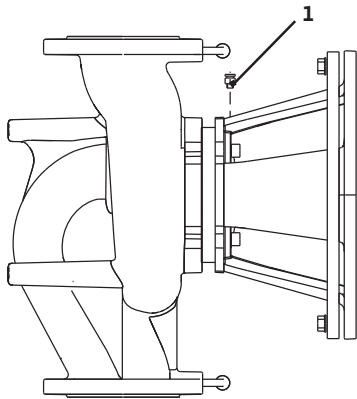

Fig. 41: Air vent valve
- Vent the pumps by loosening the air vent valves (Fig. 41, Item 1). Dry running will destroy the mechanical seal of the pump. The differential pressure sensor must not be vented (risk of destruction).